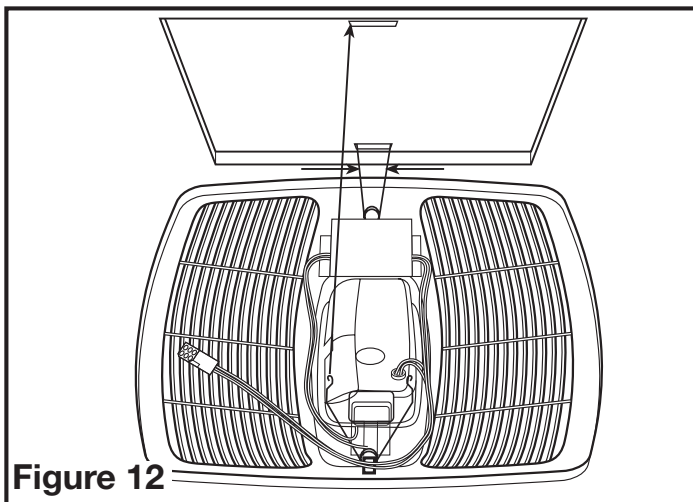

Figure 12
5. Install the grill by squeezing the springs together and installing it up into the slot furthest from the wire compartment on the fans housing. Attach the 6 pin quick connect from the grill to the 6 pin connector on the top of the wire cover. The cord will only fit one way into the receptacle. Install the other spring and push the grill up into position. (Figure 12).